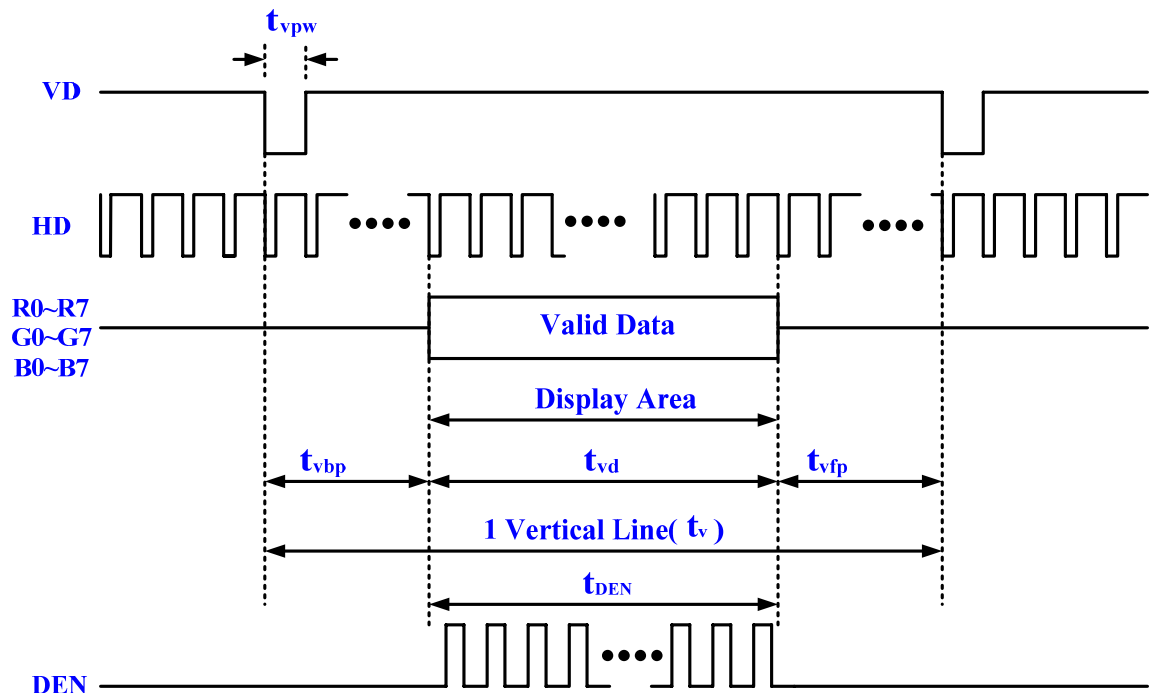

Figure 3.3 LCD vertical timing specification
The timing of the vertical synchronization (VD) is the same as shown in Figure 3.3, except that a vsync pulse signifies the end of one frame and the start of the next, and the data refers to the set of rows in the frame (horizontal timing). Table 3.2 and 3.3 show for different resolutions, the durations of time periods t_{hpw} , t_{hbp} , t_{hd} , and t_{hfp} for both horizontal and vertical timing. Finally, the timing specification of the synchronous signals is shown in the Table 3.4.